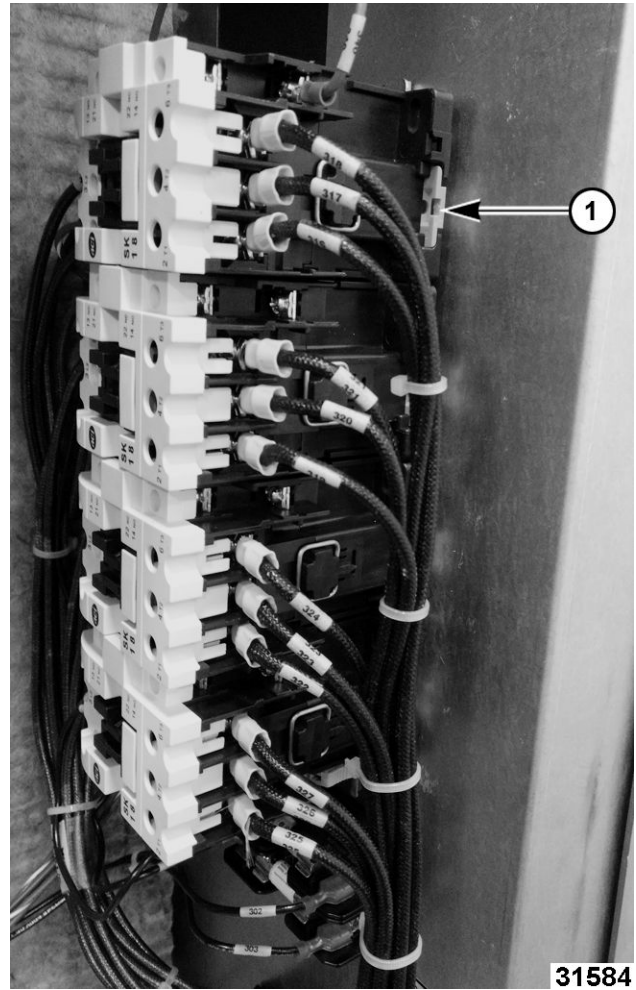

Fig. 99
**NOTE:** Use a flat screwdriver to pull out orange tab (1, Fig. 99) to release contactor from DIN rail.